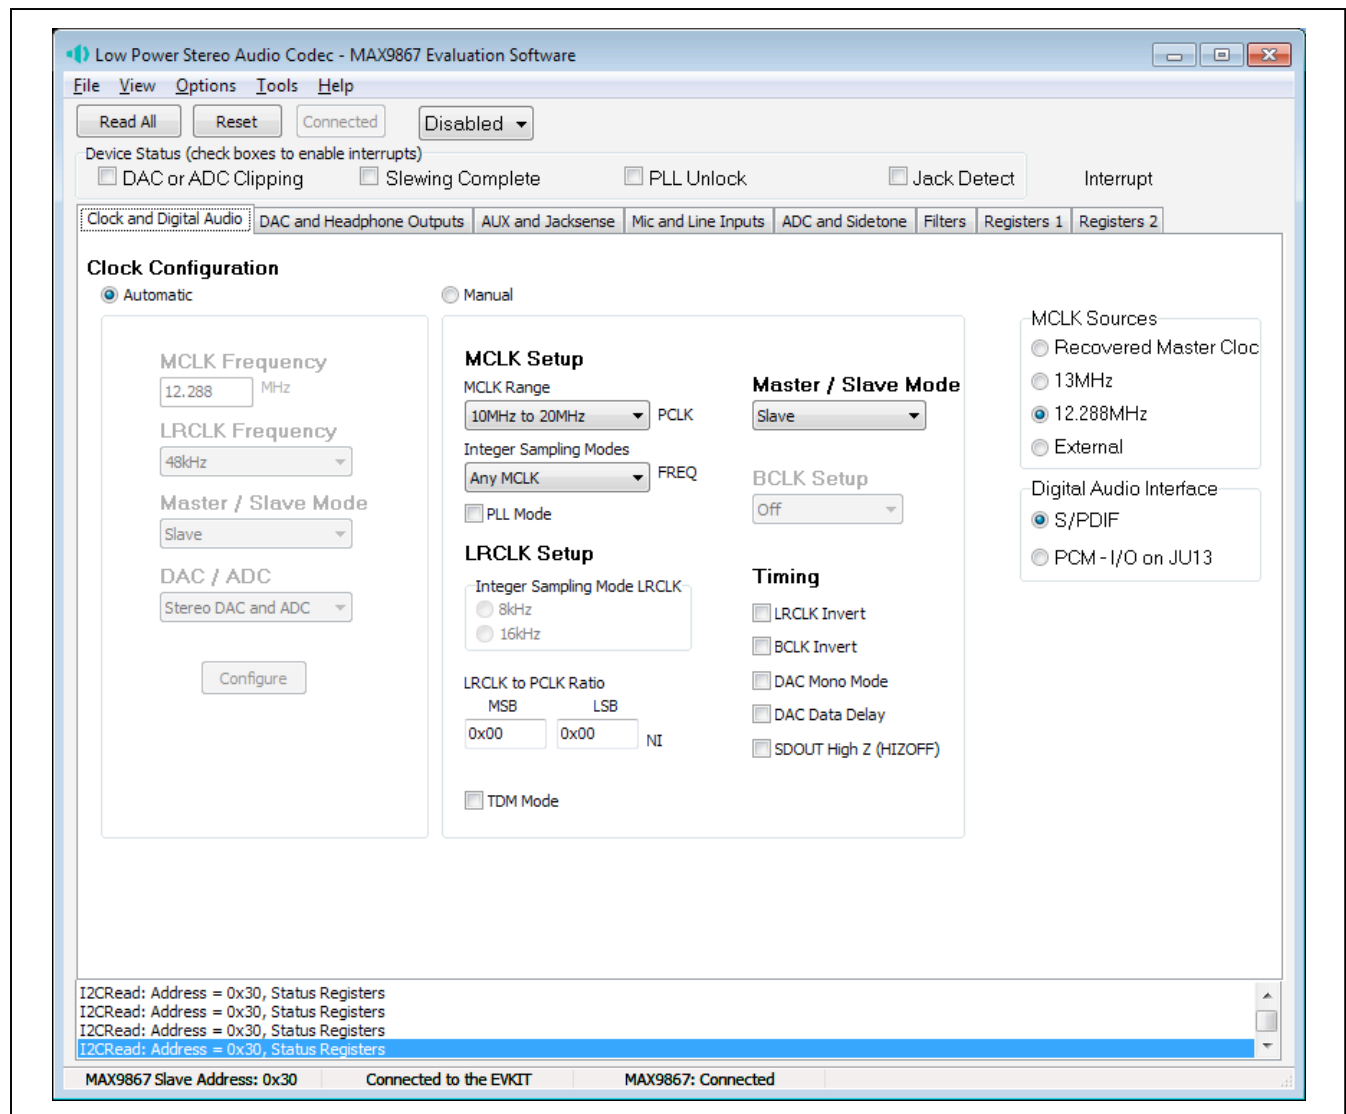

Figure 1. MAX9867 Evaluation Software (Main Window)
- 17) The EV kit software main window appears, as shown in Figure 1. Verify that the message **MAX9867: Connected** is displayed on the status bar at the bottom of the software's main window.
The **Clock and Digital Audio** tab sheet (Figure 1) contains the master clock (MCLK) and digital audio interface selections for the MAX9867. A user can select an automatic typical interface configuration or manually configure the device according to specific requirements.